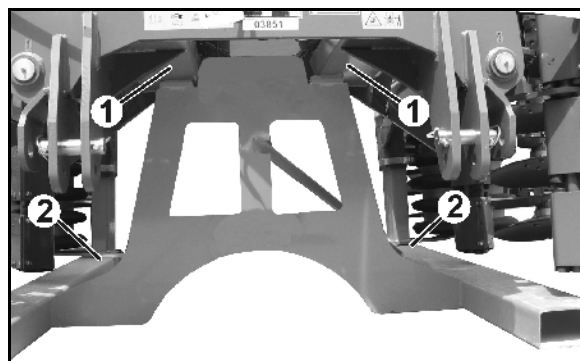

Fig. 22
- Support points Fig. 22/1: The horizontal surface of the folded-in boom frame, left and right.
- Support points Fig. 22/2: The square tube of the roller frame, left and right.